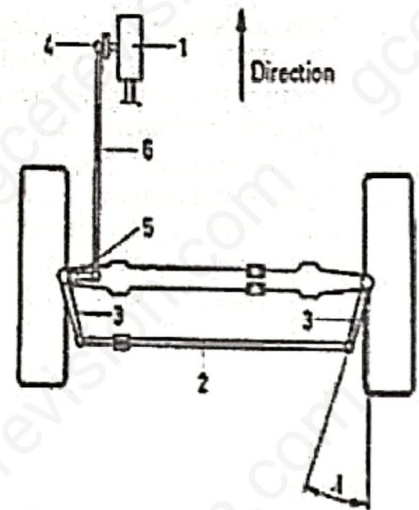

Figure 5.2
- Name the parts labeled 1, 2, 3, 5 and 6 in figure 5.2. (1.25mark)